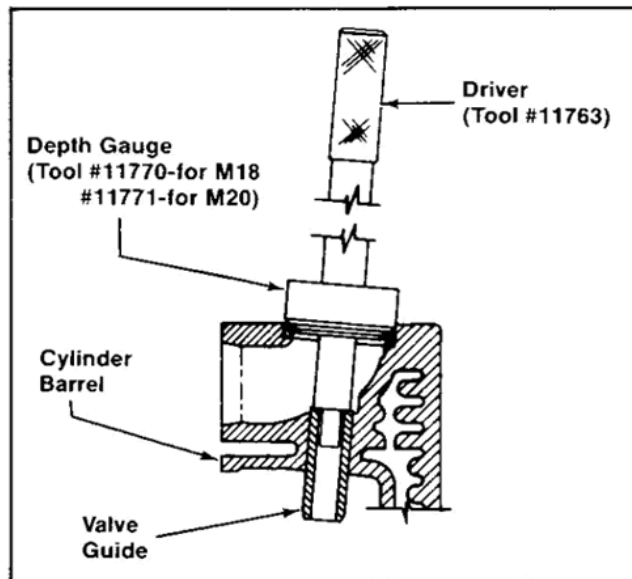

Figure 10-7. Installing Valve Guide.
- Using valve guide driver (Refer to Section 2, Special Tools), align and then press guide in until valve guide driver bottoms on depth gauge. Refer to Figure 10-7.